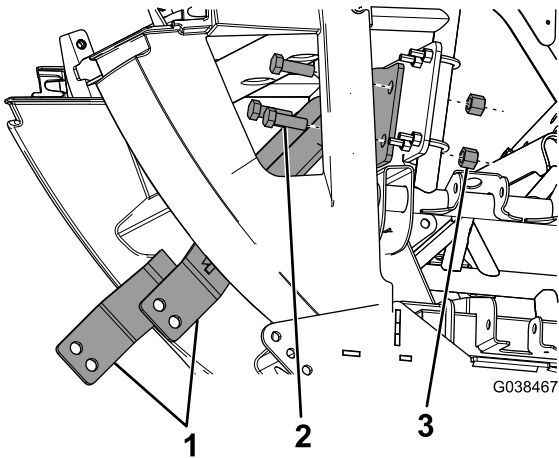

Figure 10
- 10. Secure the long brackets to the upper bracket using 4 bolts (1/2 inch) and 4 locknuts (1/2 inch) as shown in Figure 10.